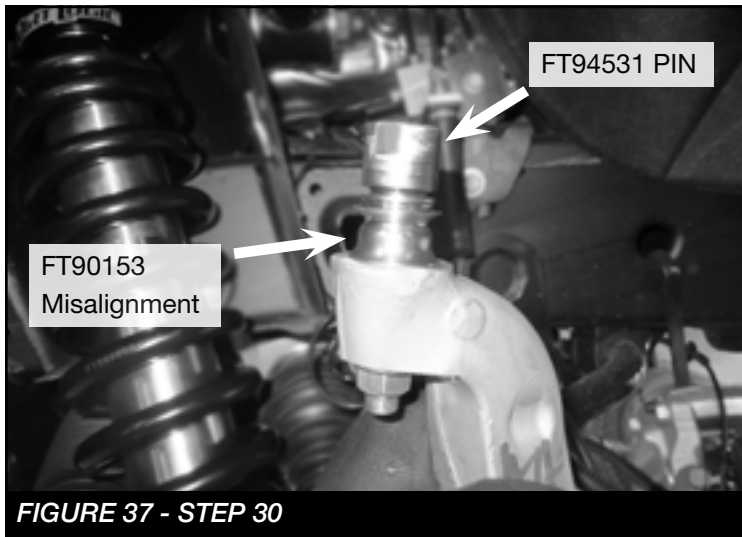

FIGURE 36 - STEP 28
28. Locate the two 7/16"-14 x 2-1/2" bolts, nuts and washers and install the lower bar pin mount onto the lower control arm. Torque the upper and lower bolts to 83 ft-lbs. **SEE FIGURE 36**